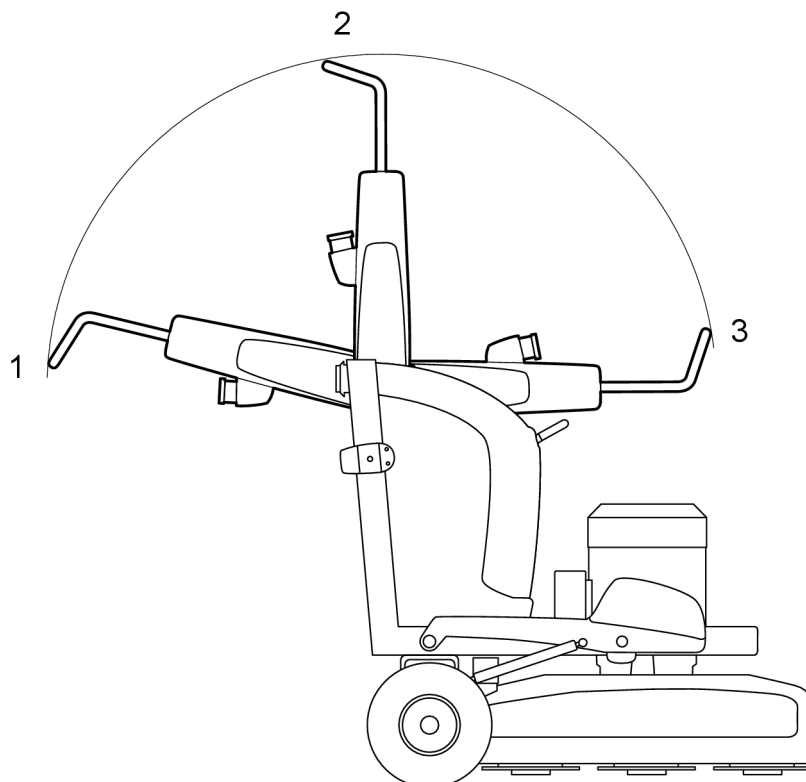

Figure 4-2. The handle's position
1. Set the handle to the rear position - see Figure 4-2, page 18
4. Set the handle to the working position, see Figure 4-2, page 18.